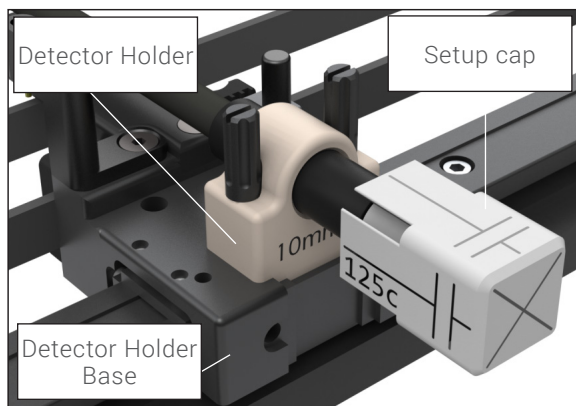

Fig. 3a: Field Detector Holder with alignment cap
- Install the Field Detector holder on the detector holder base and Field Detector in holder, as illustrated in Fig. 3a and 3b.